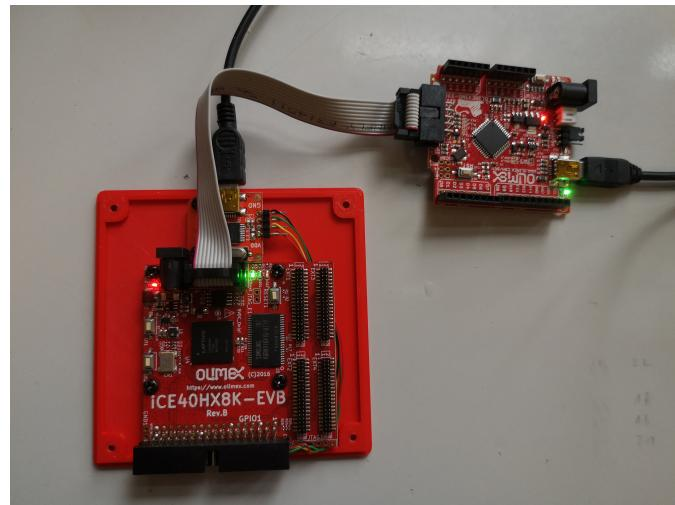

Figure 4: Connect programmer Olimexino-32u4 with fpga board iCE40HX8K-EVB
2. Connect the fpga board with olimexino-32u4 programmer to upload the bitstream file. Use two USB cables to power both boards as shown in fig. 4.